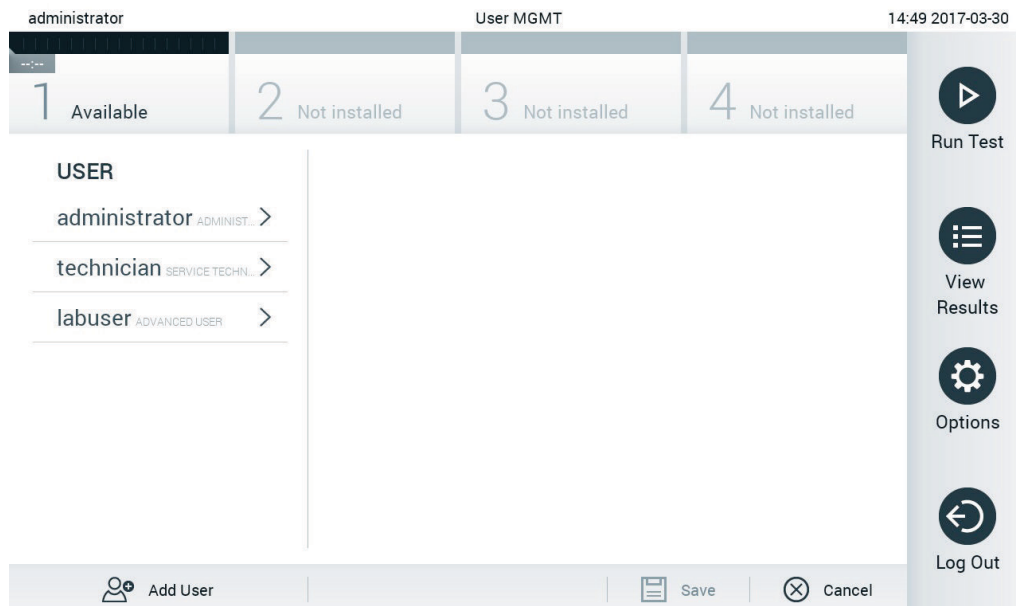

Figure 52. The User Management screen.
1. Press the **Options** button and then the **User Management** button to configure users. The **User Management** screen appears in the content area of the display (Figure 52).